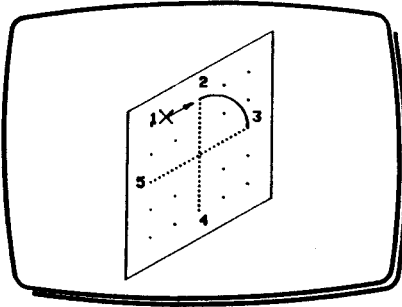

Fig 2
- 5 Move **XY** to position the dynamic cursor at (1) in Fig 2, then press and release **L** to plant the origin there.
- 6 Move **XY** to position the dynamic cursor at (2) in Fig 2, then press and release **L** to re-plant the origin. This sets the direction for the arc which follows.
- 8 Position the dynamic cursor at (3) in Fig 2. Then press and release **T** to draw the arc.
- 9 Repeat this at (4), (5) and (2) in Fig 2 to complete the ellipse.